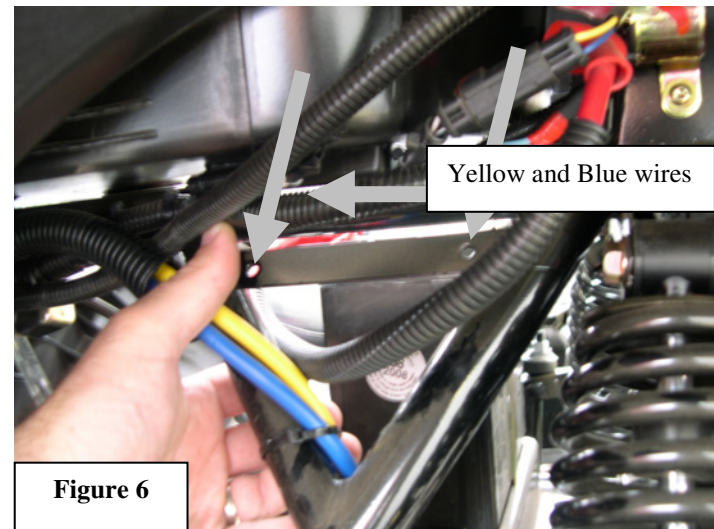

Figure 6
7. Remove the seat from your ATV and locate the Blue and Yellow wires in or near the battery Compartment as shown in Figure 6.
8. Locate the two holes shown in Figure 6. This is the mounting location for your Contactor. Mount your winch contactor (included with your winch kit) to this location, using the hardware included with your winch kit. *(NOTE: it is recommended to mount the contactor so that the switch wires are towards the middle of the ATV)*
14. Continue Routing the switch wires to the contactor location as shown in Figure 6 and connect them to the contactor